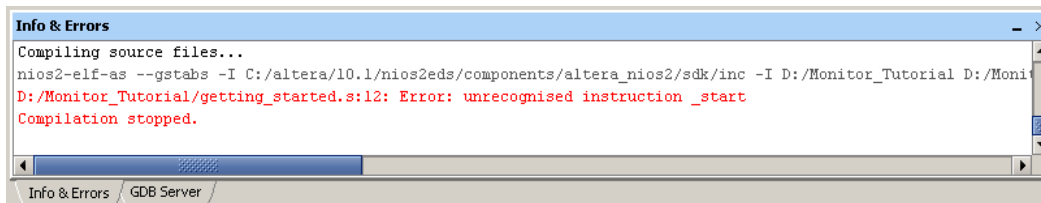

Figure 14. An example of a compiler error message.
a compiler error message, edit the file `getting_started.s`, which is in the project's directory, and remove the `:` colon that appears at the end of the `_start` label, in line 12. Recompile the project to see the error shown in Figure 14. The error message gives the line number in the file (12) where the error was detected. Fix the error, and then compile and load the program again.